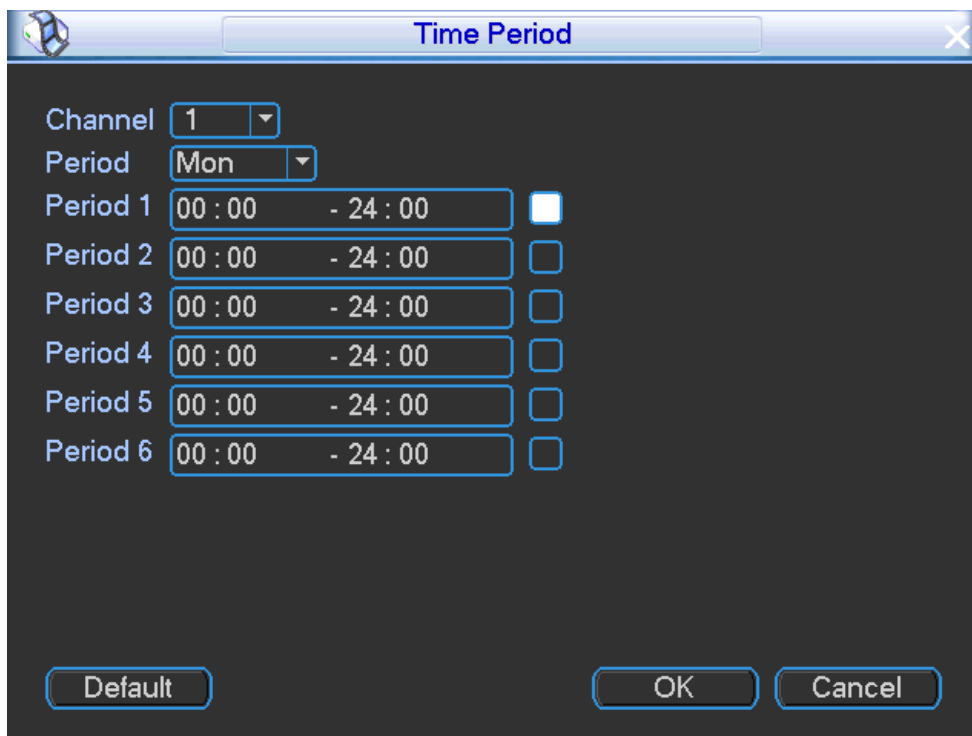

Figure 4-55
Step 3 Click Schedule setup button, the interface is shown as in Figure 4-55.